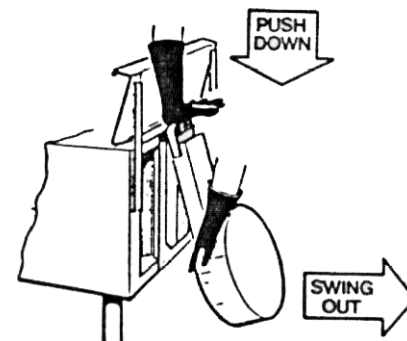

FIGURE 27
14. **CAUTION:** Muffler may be hot from steam condensate. Wear safety gloves. Remove muffler (FIG. 27), empty and wash in sink.